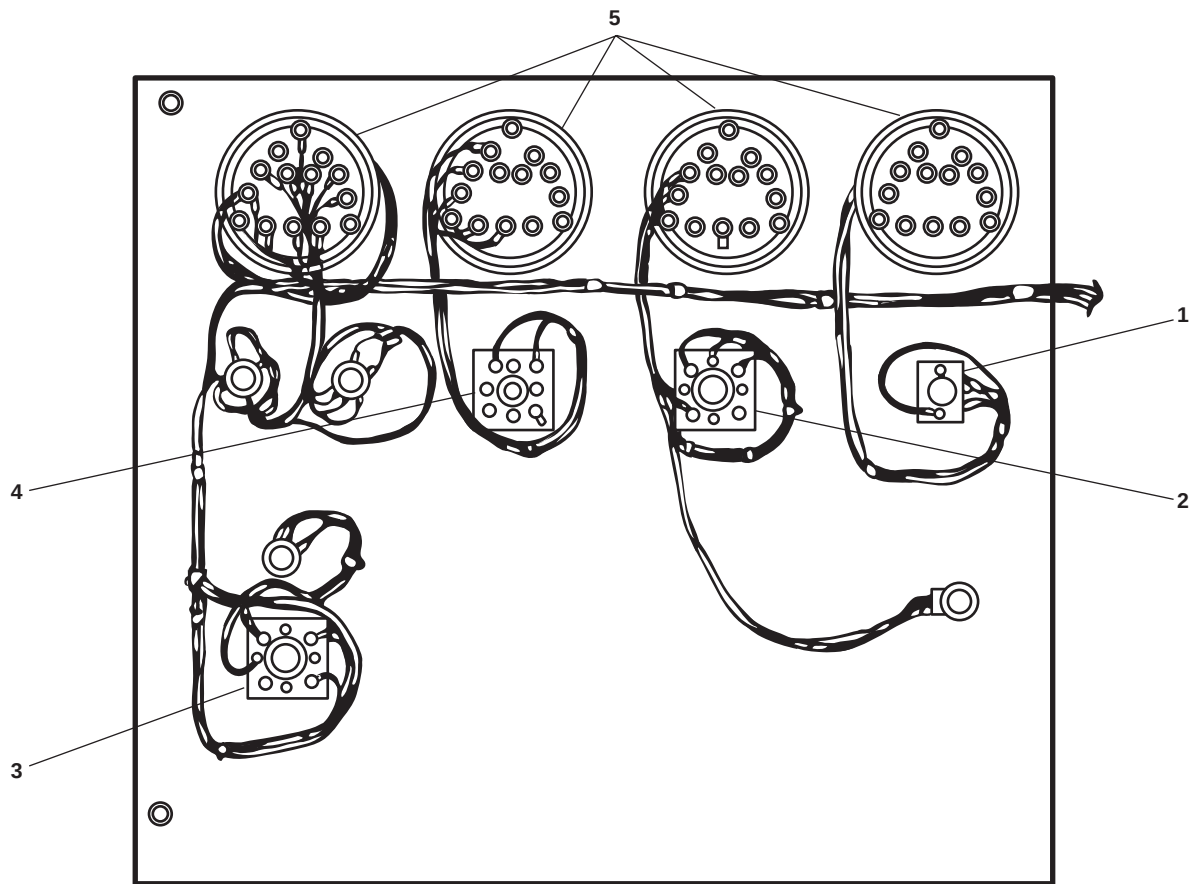

Figure 2. Main Switchboard Top Left Aft Panel (Rear)
3. Label and disconnect the wiring to the applicable select switch (figure 2, items 1 and 2), circuit breaker switch (figure 2, item 3), and/or governor toggle switch (figure 2, item 4) that is required to be replaced.
2. Install the mounting hardware on the replacement select switches (figure 2, items 1 and 2), the circuit breaker switch (figure 2, item 3), and/or the toggle switch (figure 2, item 4).
4. Label and disconnect the electrical wiring to the applicable meter (figure 2, item 5) that is being replaced.
4. Connect the electrical wiring to the meter (figure 2, item 5) using the labels from step 4 of Removal as a guide. Remove the labels.